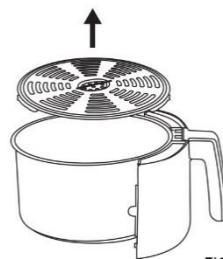

FIGURE 5
- The Drawer Pan (3), Pizza Pan (6), Cake Pan (7), Frying Rack (8) and the inside of the appliance have a nonstick coating. Do not use metal utensils or abrasive cleaning materials on them, as this can damage the nonstick coating.
- Lift the Pizza Pan (6), Cake Pan (7), or Frying Rack (8) upwards out of the Drawer Pan (3) (Figure 5) and clean both with hot water, dishwashing soap and a non-abrasive sponge.